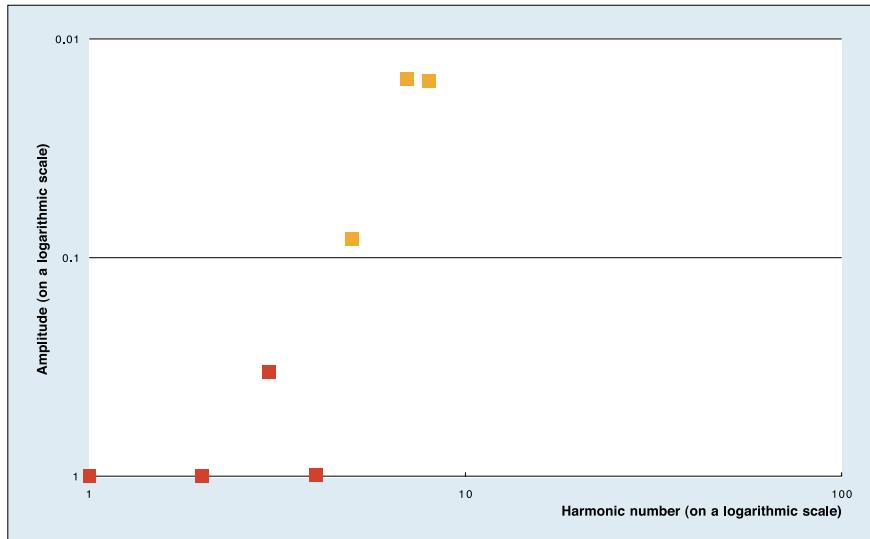

Figure 3: Trying to synthesize 8o 8800 000.
► Figure 3 (above). As you can see, the first four harmonics are present in the expected amounts, but three more — which I have shown in orange — are also present, albeit at lower amplitudes. We might be able to excuse the rightmost of these because it lies on the eighth harmonic, and therefore represents a bit of leakage from the 2' drawbar. But the contributions from the fifth and seventh harmonics are not so welcome. They don't sound 'wrong' exactly — after all, they lie in their correct positions in a perfect harmonic series — but their contributions are inappropriate, and it is these that make the patch sound too bright (the 6th harmonic is entirely absent, but I'll leave you to work out why).